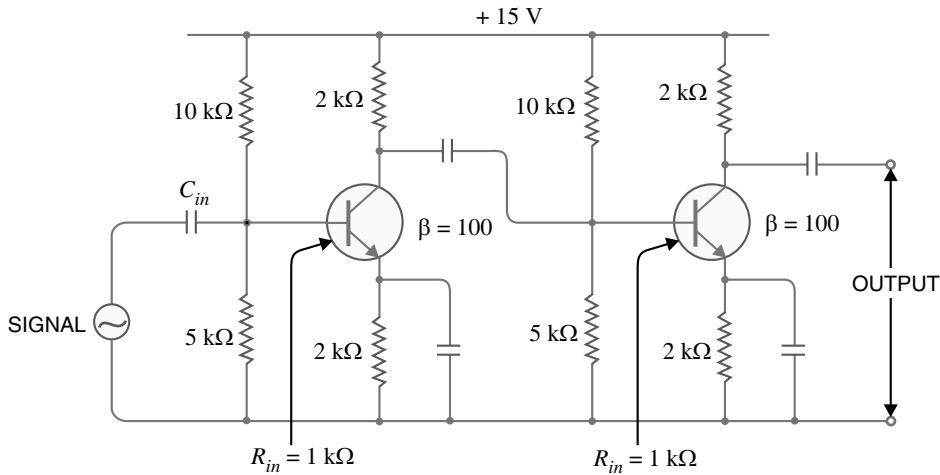

Fig. 9.20
**Example 9.20.** Fig. 9.20 shows two-stage  $RC$  coupled amplifier. If the input resistance  $R_{in}$  of each stage is  $1\text{ k}\Omega$ , find : (i) voltage gain of first stage (ii) voltage gain of second stage (iii) total voltage gain.